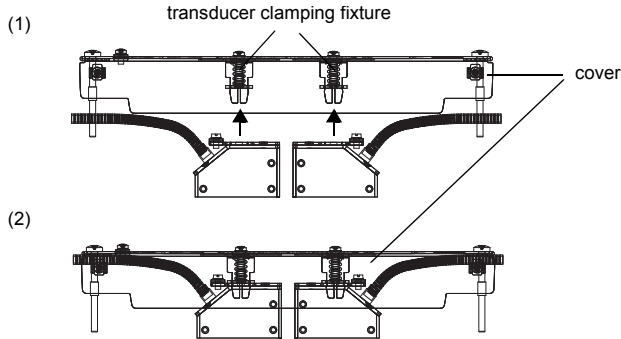

Fig. 7.20: Transducers in the cover
- Press the transducers firmly on the transducer clamping fixture in the cover until the transducers are firmly fixed in the cover. The transducer cables show in opposite directions (see Fig. 7.20).